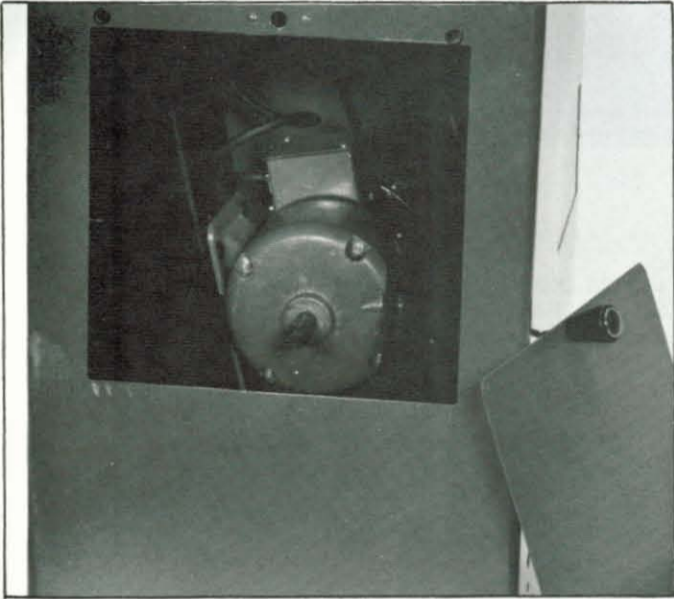
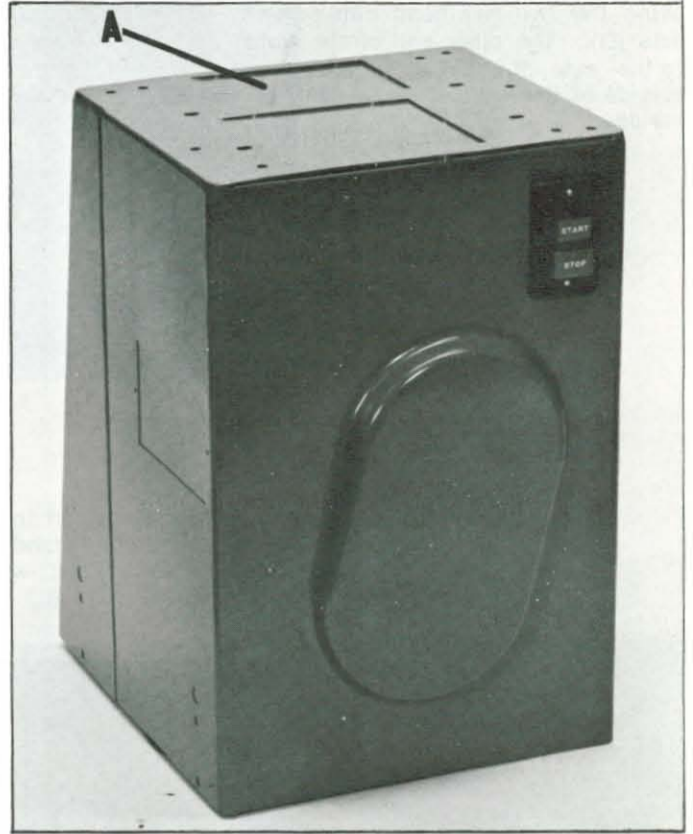

Fig. 3
Fig. 2
If you purchased your band saw complete with stand and electricals factory mounted and wired, as shown in Fig. 2, it is necessary to remove the small knockout (A) located on top of the stand. The motor plate, motor, motor pulley and switch are completely assembled to the stand, as shown in Fig. 2 and Fig. 3.